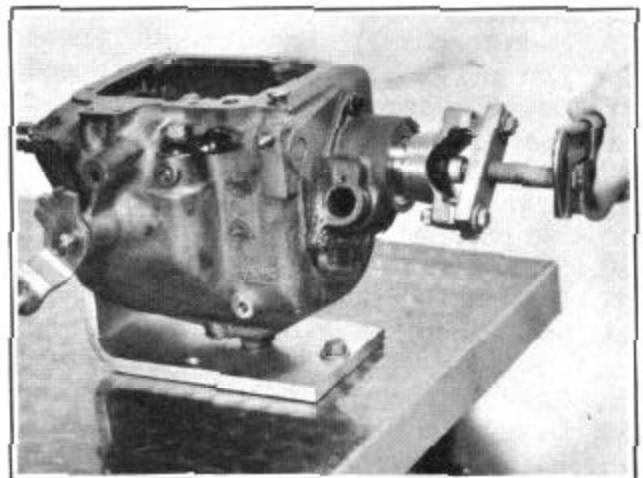

FIGURE 3
2. Remove drain plug at bottom of case and drain lubricant. Place case assembly in Holding Fixture J-1584 and bolt securely at front end of case with two clutch housing cap screws, Figure 3.
DO NOT HAMMER: Use Universal Joint Companion Flange Puller, Tool No. J-820, to remove a tight flange from mainshaft, Figure 3.